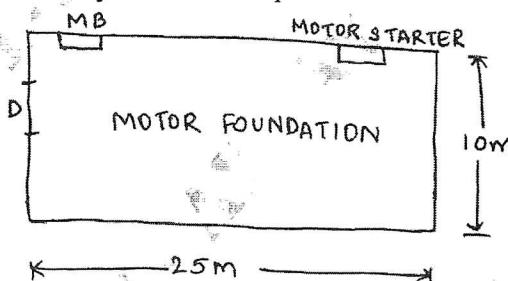

Fig Q6(b)
b. A 10HP, 415V, 3φ, 50Hz, Induction motor is to be installed in a workshop the plan of which is shown in Fig Q6(b). Draw the layout of the wiring and estimate the quantity of material required. Assume motor efficiency as 85% and power factor as 0.8 lagging.